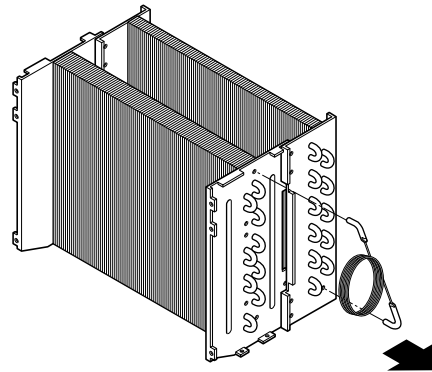

Figure 20
8. Remove 4 screws between condenser and evaporator assembly. (See Figure 20)